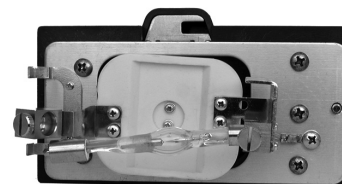

Figure 11
16. The lamp is polarized (one end is larger than the other). Insert the large end through the flexible mounting socket, but do not tighten the set screw (see figure 11).